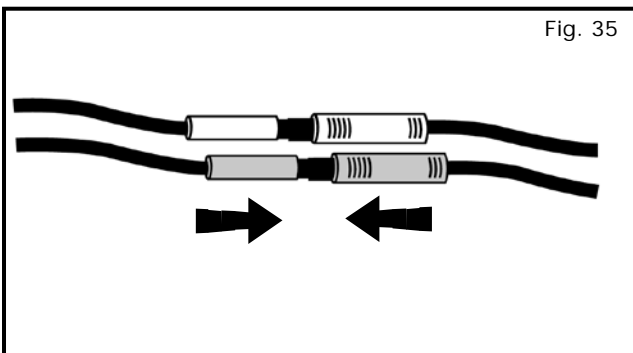

Fig. 35
20.16) Continue routing two headrest cables toward front of vehicle. Connect black and blue barrel connectors to matching black and blue barrel connectors of DVD harness. Figure 35